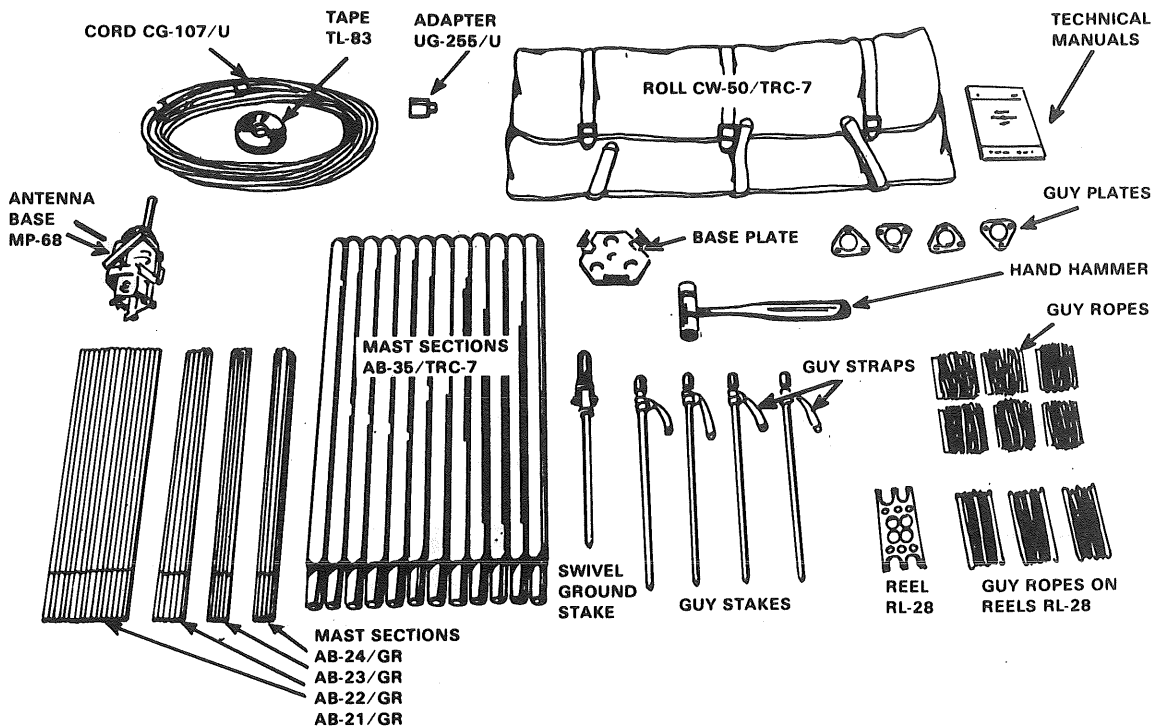

Figure 4. Antenna components.
- a. Position the base plate at the point of installation, with the cleats up (fig 4).